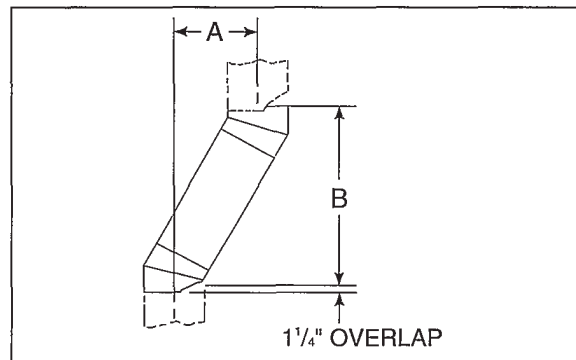

Figure 8
Maximum allowed shift between an offset/return ("A" in Figure 8)	44"
1. Measure how far the chimney needs to be shifted to enable it to avoid the overhead obstacle. See Figure 8, dimension "A".
Example: Your "A" dimension from Figure 8 is 14½". Using Table 1, the dimension closest to but not less